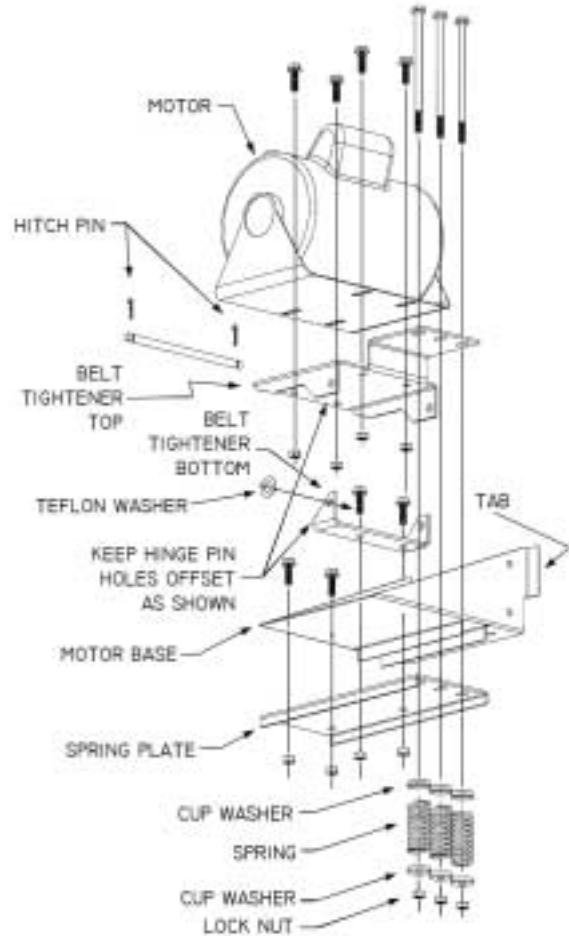

Figure 1
4. Mount the motor and belt tightener top assembly to the fan by aligning the hinge pin holes of the belt tightener top and belt tightener bottom and inserting the hinge pin. Place the provided TEFLON washer between the pin holes in the belt tightener top and belt tightener bottom. The TEFLON washer should go on the side depicted in figure 1. Secure the hinge pin with the hitch pins as shown in Figures 1 and 3.
5. Install the $5/16"$ (7.9 mm) x 6" (177.8 mm) hex head bolts, cup washers, springs and lock nuts as shown in Figures 1 and 3.